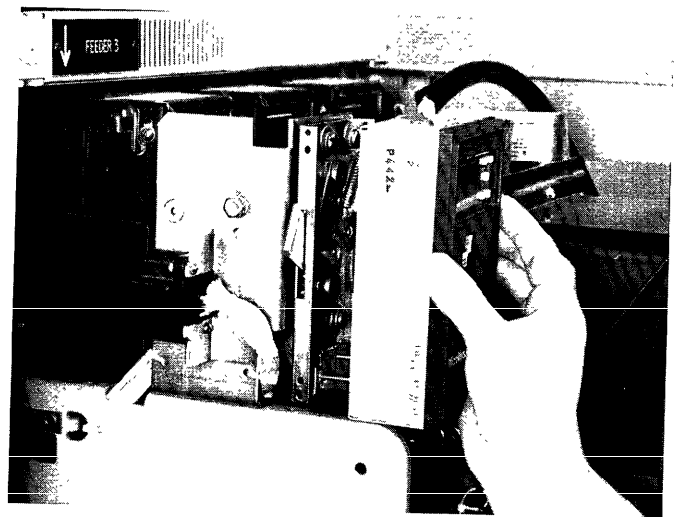

Figure 3. Installing the trip unit in the breaker.
6. Reinstall the trip unit by aligning the holes in the back of the trip unit with the guide pins on the mounting plate, as illustrated in Figure 3. Push firmly down on the trip unit until the PROGRAMMER RELEASE LEVER snaps back under the trip unit.